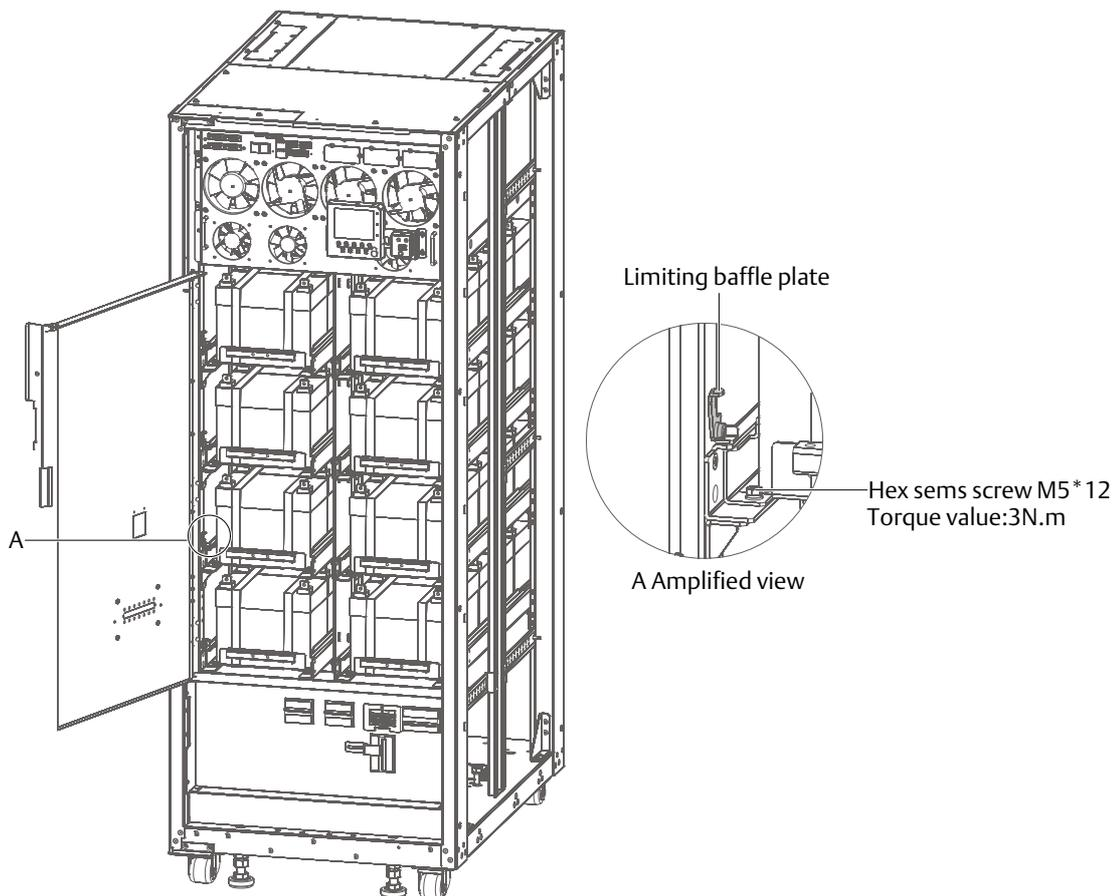

Figure 8-10 Securing the battery trays
6. Use torque value indicated in Figure 8-10 to secure both sides of the battery tray, then raise the limiting baffle plate.